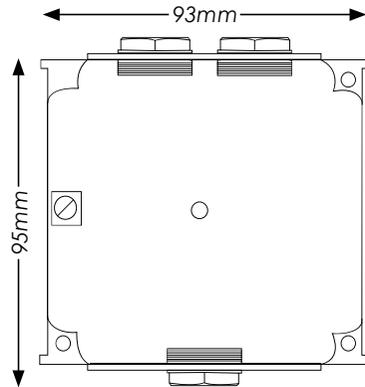

Fig. 1 Backbox
- Fit the backbox to a flat surface using the three fixing holes and screws provided. The cable entry holes should be in the vertical plane. The backbox can be mounted with either the single or double entry holes at the top. **(Fig. 1)**.